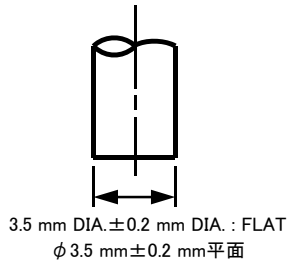

Fig.1
- (2) We recommend the shape indicated in Fig.1 regarding the operation section.